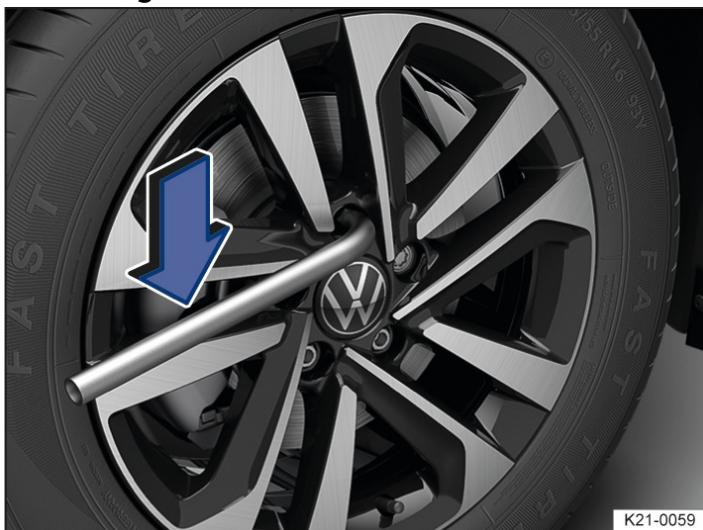

Fig. 1 Changing a wheel: loosening the wheel bolts.
1. Fit the box spanner over the wheel bolt as far as it will go → *Fig. 1*.